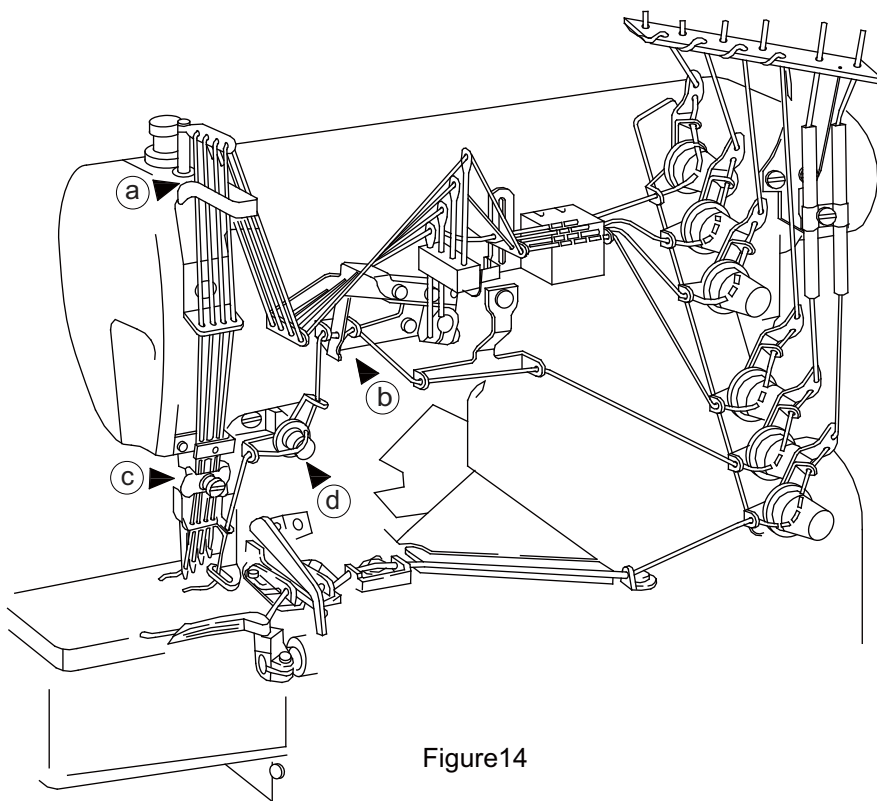

Figure14
Press down the lever, as indicated in Figure 14.
⑥ 如果机器上原来没有线,请参照穿线图进行正确穿线,如图14所示。
Be sure to thread the machine, correctly by referring to the threading diagram, as shown on figure14.